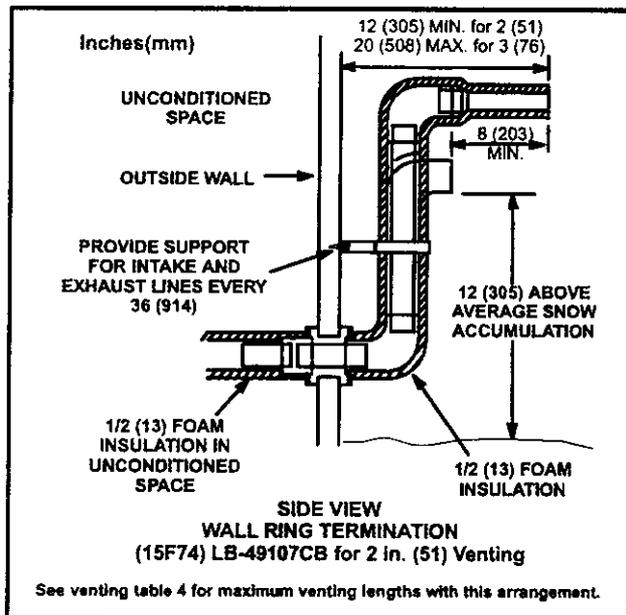
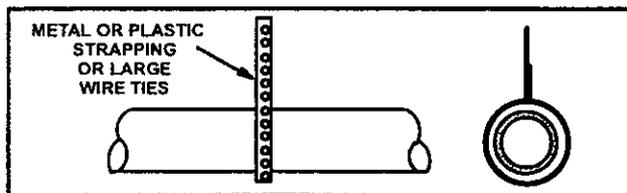
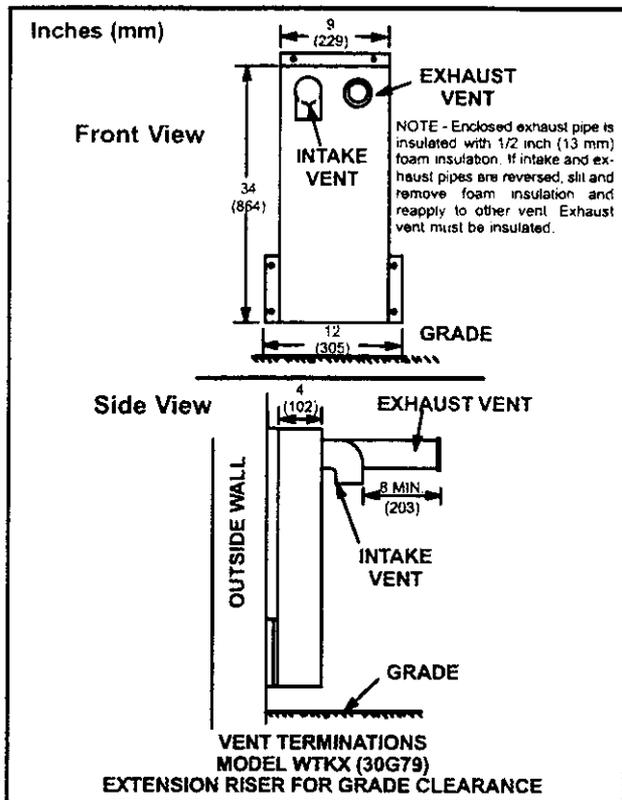

FIGURE 13
FIGURE 15
FIGURE 19
- 8 - If intake and exhaust piping must be run up a side wall to position above snow accumulation or other obstructions, the piping must be supported every 3 feet (.91 m) as shown in figure 15. Refer to figures 13 and 14 for proper piping method. WTK wall termination kit must be extended for use in this application. See figure 18 or use kit WTKX shown in figure 19. When exhaust and intake piping must be run up an outside wall, the exhaust piping is reduced to 1-1/2 inches (38 mm) after the final elbow. The intake piping may be equipped with a 90° elbow turndown. Using 90° turndown will add 5 feet (1.5 m) to the equivalent length of the pipe.